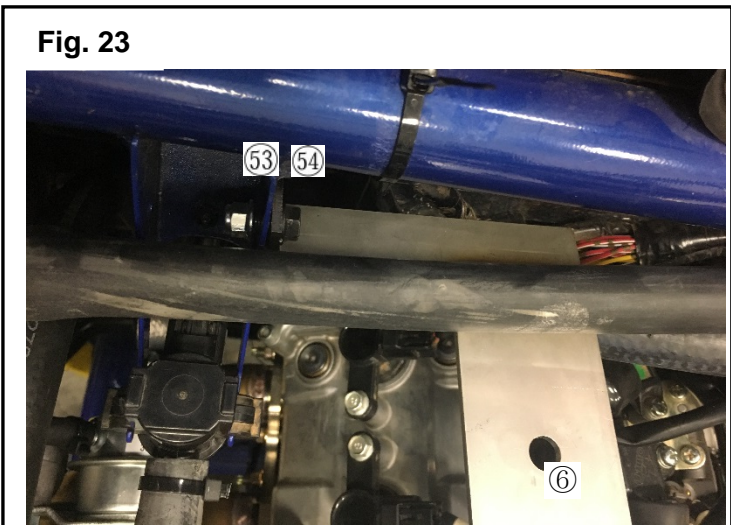

Fig. 23
- 32** Remove the left hand bolt in the air cooler that was left loose in step 25. Install the Air Cleaner Bracket ⑥ with one M6 flange bolt ⑤③ and 1 M6 Flange Flange Nut ⑤④ as shown in Fig. 23. Replace the M8 bolt and nut and tighten the bracket in place. See Fig. 23a.